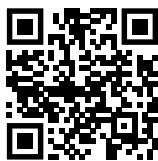

Fig. 120
- Aprire la Liebherr SmartMonitoring Dashboard. (vedere Fig. 120)